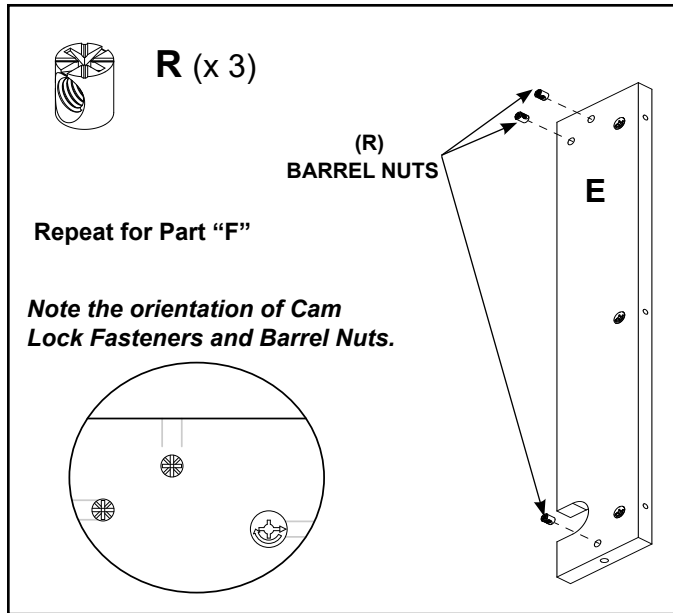

Figure 10
- Install three (3) Barrel Nuts (R) into part "E". See Figure 10. Repeat for part "F".